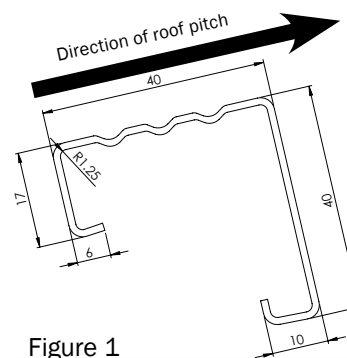

Figure 1
3. The start position for the bar should be established based upon the roof design criteria and roof sheet manufacturers specifications. Ensure that the first bar is orientated correctly, refer Figure 1, and that the first bracket is within 100mm of the start of the bar.